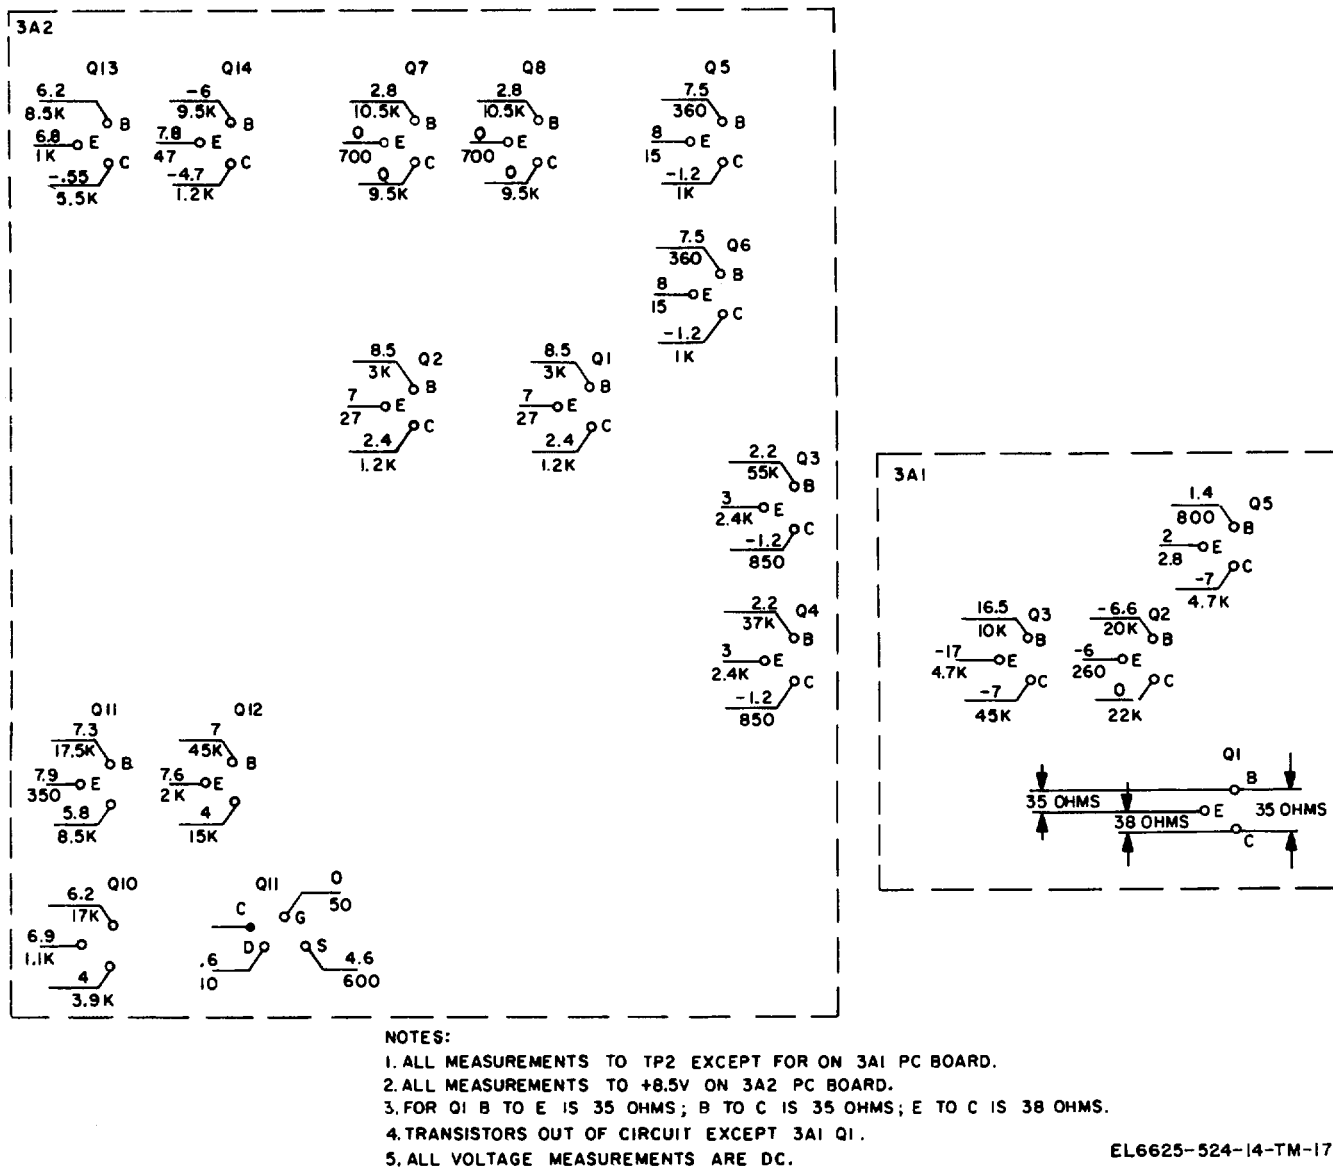

Figure 6-1. Voltage and resistance measurements.
(3) *Voltage and resistance measurements.* Voltage and resistance measurement are shown in figure 6-1. Several waveforms at critical points are shown in figure 5-10. Use these to localize trouble to a component.